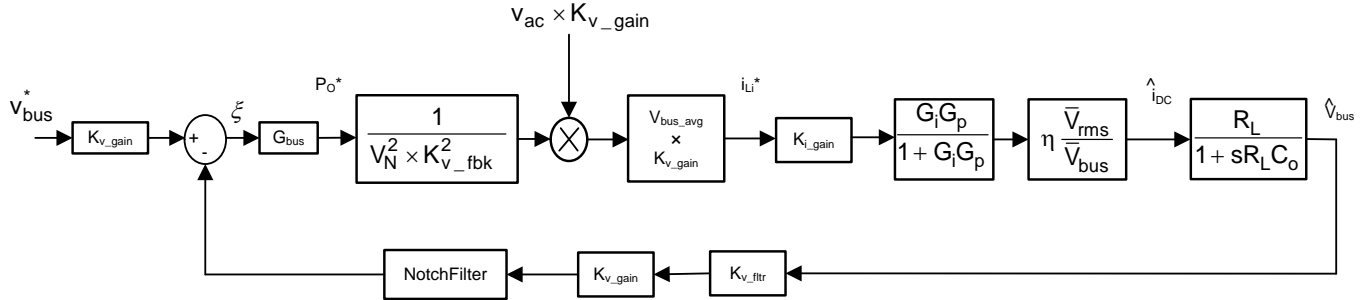

图 11. DC Voltage Loop Control Model
The DC voltage regulation loop control model can be drawn as shown in 图 11. An additional Vbus feedforward is applied to make the control loop independent of the bus voltage, and hence, the plant model for the bus control can be written as 公式 6.
Using 图 11, a proportional integrator (PI) compensator is designed for the voltage loop. The bandwidth of this loop is kept low as it is in conflict with the THD under steady state.